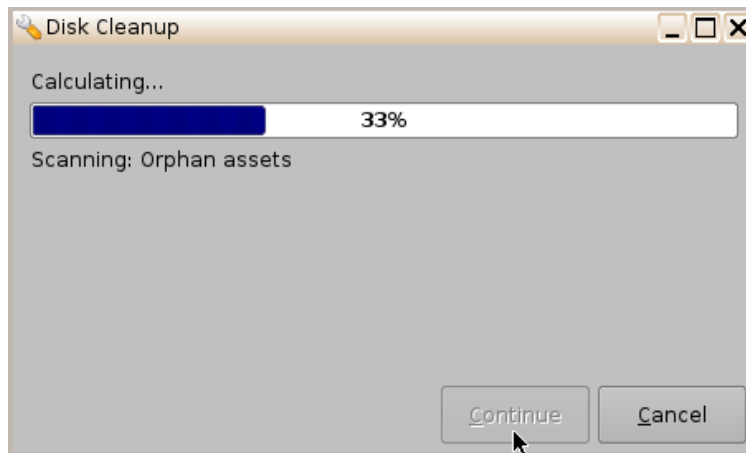

Figure 17: Disk Cleanup Scanning Window
- The following window will appear (Figure 17):